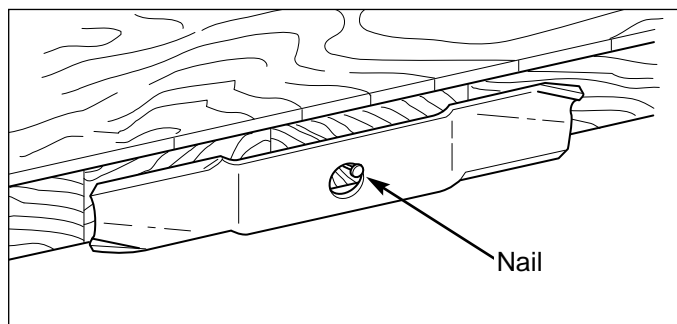

Figure 14. Balancing the Blade
6. Balance the blade as shown in Figure 14. Center the blade's hole on a nail lubricated with a drop of oil. A balanced blade will remain level.